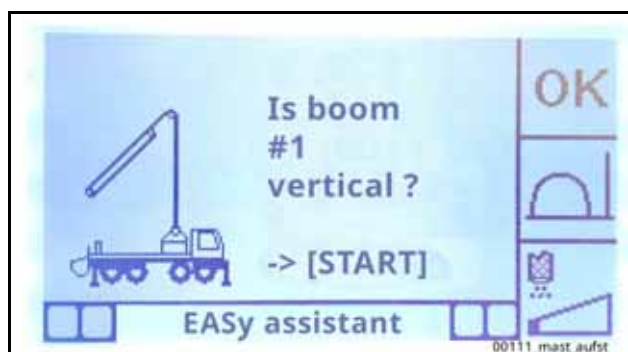

Fig. 527
- Confirm that the position has been reached on the control cabinet of the VECTOR control or on the remote control (**Fig. 527**).